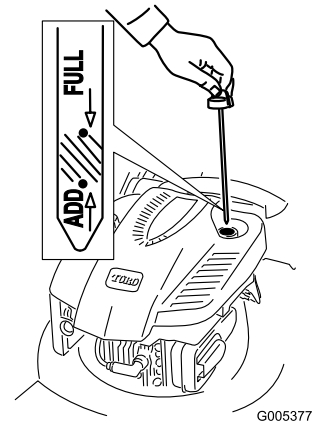

Figure 6
1. Remove the dipstick (Figure 6).
2. **Slowly** pour oil into the oil fill tube until the oil level reaches the **Full** mark on the dipstick (Figure 6). **Do not overfill.** (Max. fill: 0.59 l, type: SAE 30 detergent oil with an API service classification of SF, SG, SH, SJ, SL, or higher.)
1. Remove the dipstick, wipe it clean, and fully install the dipstick (Figure 6).
2. Remove the dipstick and check the oil level (Figure 6). If the oil level is below the **Add** mark on the dipstick, **slowly** pour oil into the oil fill tube to raise the oil level to the **Full** mark on the dipstick. **Do not overfill.** (Max. fill: 0.59 l, type: SAE 30 detergent oil with an API service classification of SF, SG, SH, SJ, SL, or higher.)